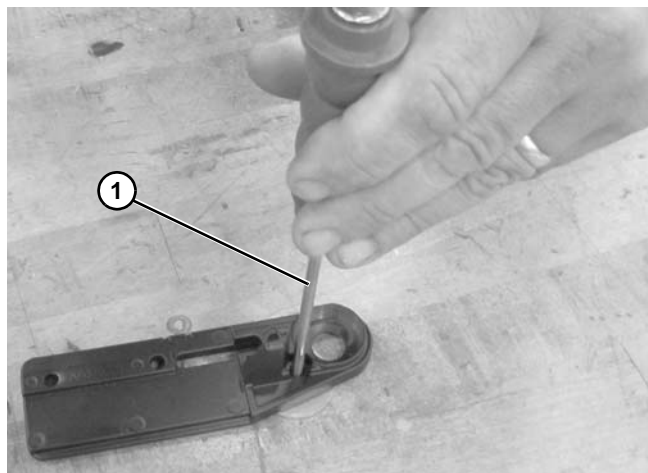

**Figure 90**
3. Use a hammer and punch (1/4" - 1/2" dia) (**Figure 90, item 1**) or long bolt to knock out slug (**Figure 94, item 1**) for shaft backing up tail plate with washer.